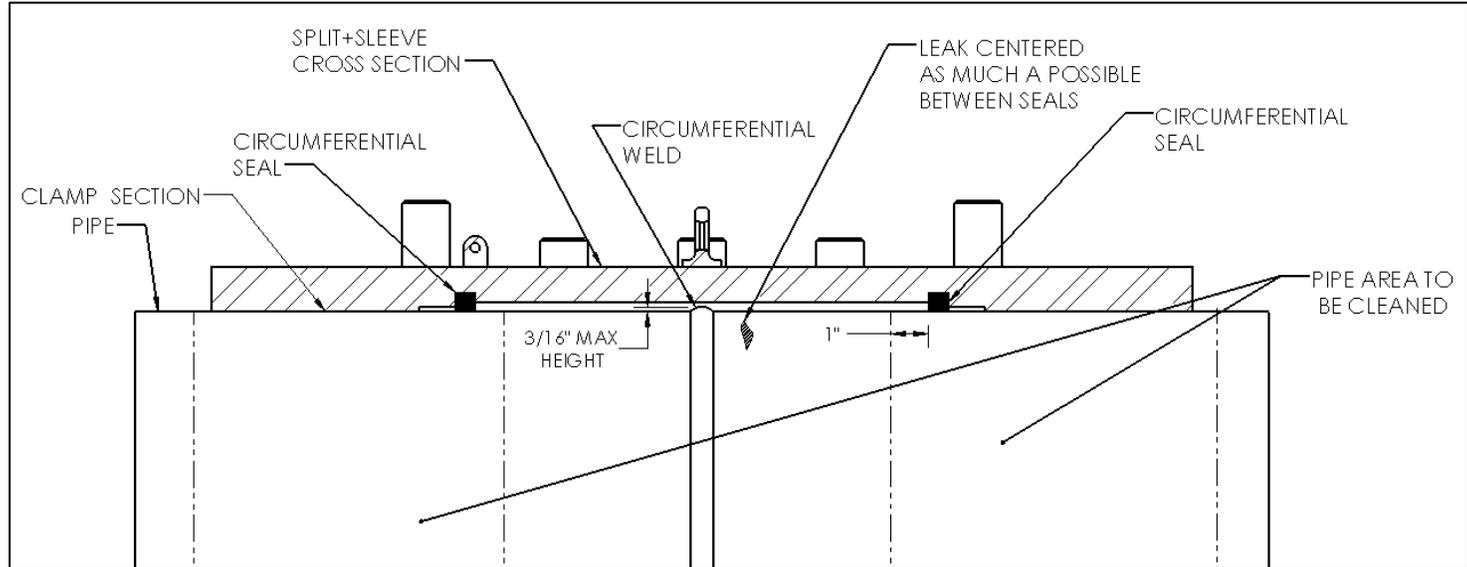

Figure 1
3. Circumferential pipe welds within the circumferential seals do not need to be ground flush as long as the weld height does not exceed 3/16 inch (4.7 mm) (see Figure 1).